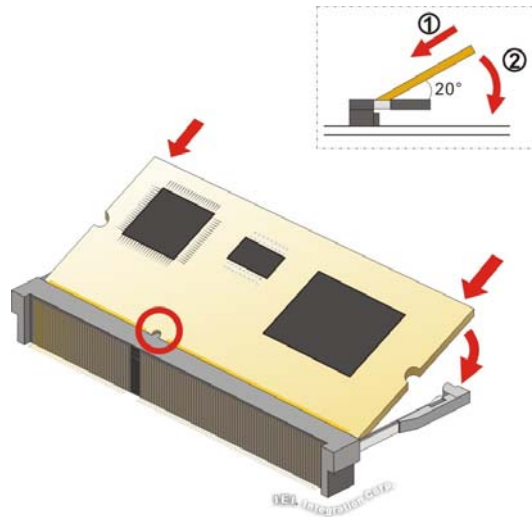

Figure 3-7: IPMI Module Installation
Step 4: Insert the iRIS-2400 module. Push the module in at a 20° angle (**Figure 3-7**).
Step 5: Seat the iRIS-2400 module. Gently push downwards and the arms clip into place (**Figure 3-7**).